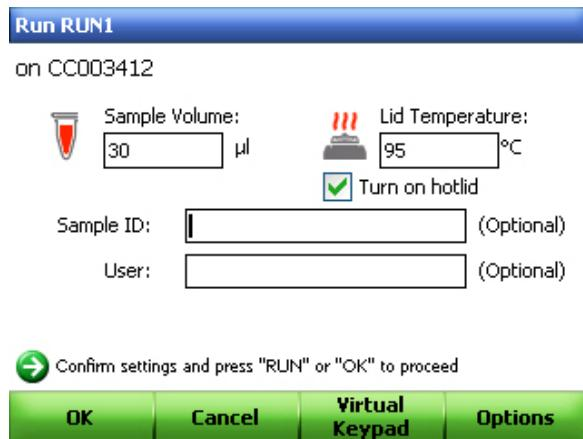

Figure 43. Editing sample volume and lid temperature.
6. Edit the **Sample Volume** or **Lid Temperature** that will be used for the run (Figure 43).